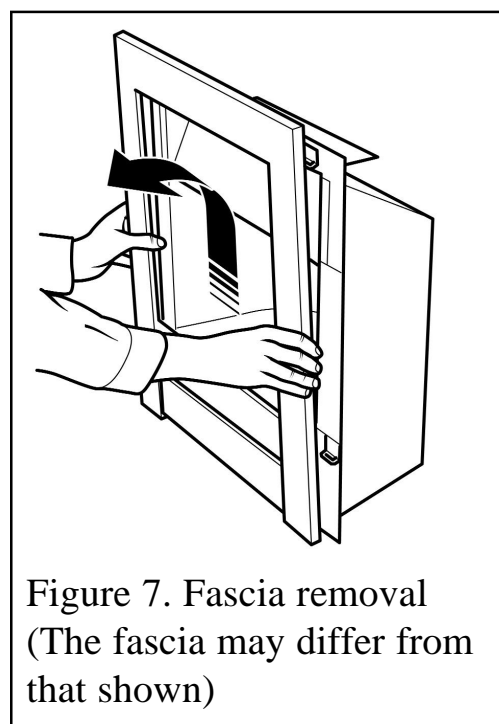

Figure 7. Fascia removal
- On 'Aspect Glass', 'Fascination' and 'Tranquility' models the fascia will have to be removed to gain access to the ceramic fuel effect. The fascia is held in place by four retaining plates at the back of the fascia. These slot into four retaining brackets on the hotbox. To remove the fascia, hold the sides of the fascia and lift upward and forward. The fascia should lift clear of the hotbox (See figure 7). The fascia can be replaced in the reverse order.
- On ‘Aspect Glass’, ‘Fascination’ and ‘Tranquility’ models the fascia will have to be removed to gain access to the ceramic fuel effect. The fascia is held in place by four retaining plates at the back of the fascia. These slot into four retaining brackets on the hotbox. To remove the fascia, hold the sides of the fascia and lift upward and forward. The fascia should lift clear of the hotbox (See figure 7). The fascia can be replaced in the reverse order.